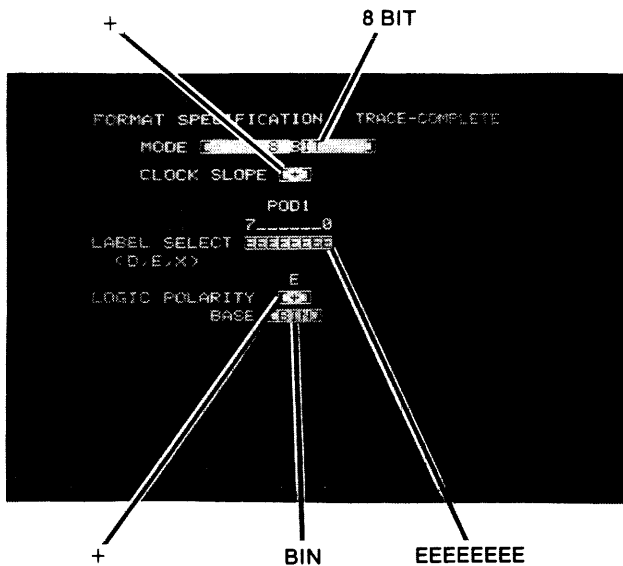

Figure 4-9. Asynchronous Tests Format Specification Menu
- e. Use CURSOR keys to move cursor to each field in menu. Set up menu according to figure 4-9.